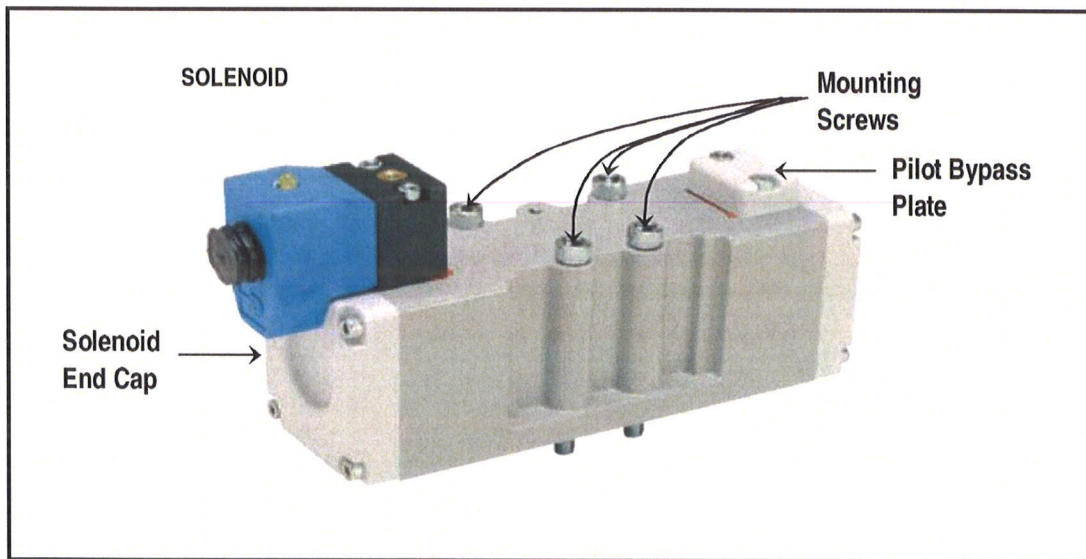

Figure 15: Typical Parker H-Series Pilot Valve
- b. For DB-15/20 (Figure 15):
- iii. Disconnect tubing from elbows and tees - all six (Figure 15).
- iv. Remove clamp hex bolts that secure manifold (Figure 15).